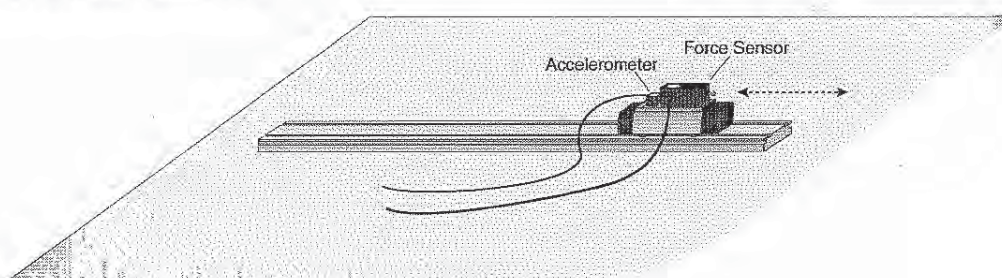

Figure 1
2. Place a single book under one end of a 1 – 3 m long board or track so that it forms a small angle with the horizontal. Adjust the points of contact of the two ends of the incline, so that the distance, x , in Figure 1 is between 1 and 3 m.
9. Measure the length of the incline, x , which is the distance between the two contact points of the ramp. See Figure 1.